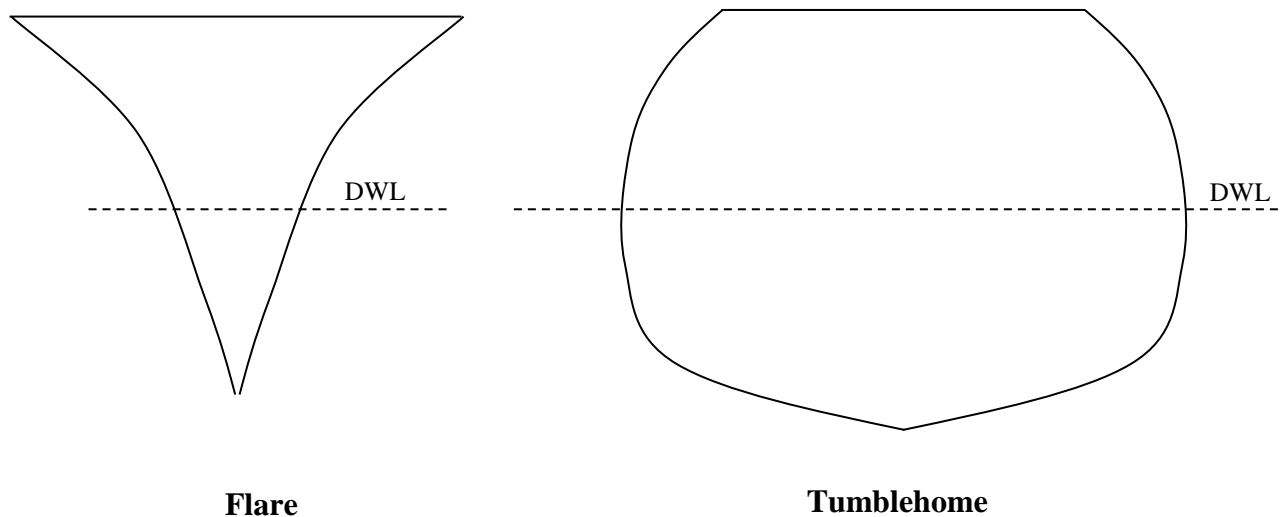

Figure 2.11 Ships with Flare and Tumblehome
Figure 2.11 shows flare and tumblehome.
1. “Weight” each differential area element by its distance from some reference (i.e., $y_1a_1, y_2a_2, \dots, y_na_n$). In Figure 2.11, the reference is the x-axis.